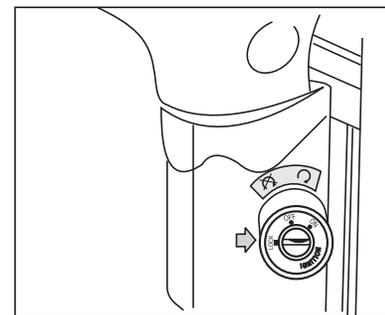

Fig. 6
**Locking the Handlebar:** First turn the handlebar to the extreme left and then turn the key anticlockwise to lock position. Pull out the key after locking (Fig.6).